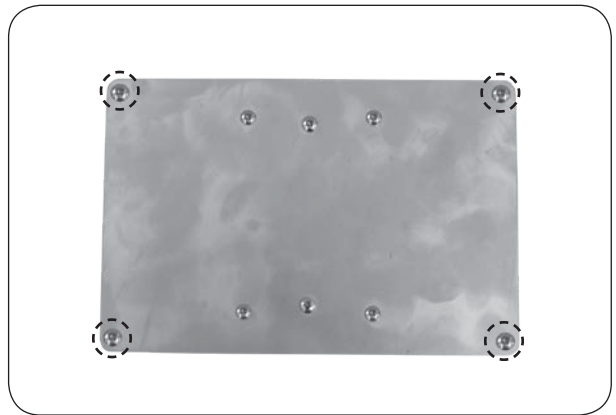

Fig. 39-1 Remove 4 large screws
2. Using a phillips screwdriver, remove the 4 large screws found on the cover of the power supply box (see Fig. 39-1).